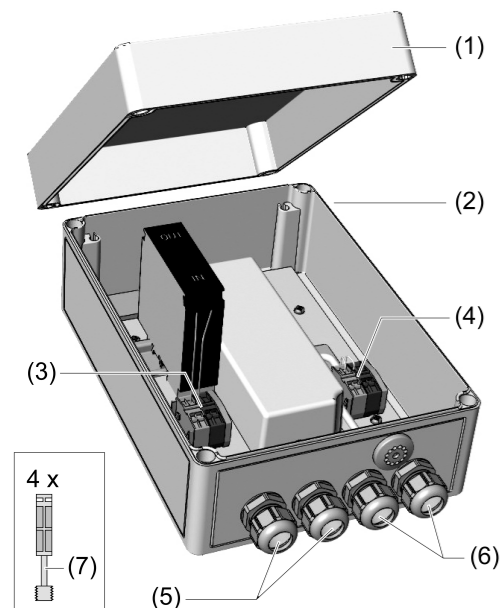

Figure 1
- Remove cover (1) from the housing (2) (Figure 1).